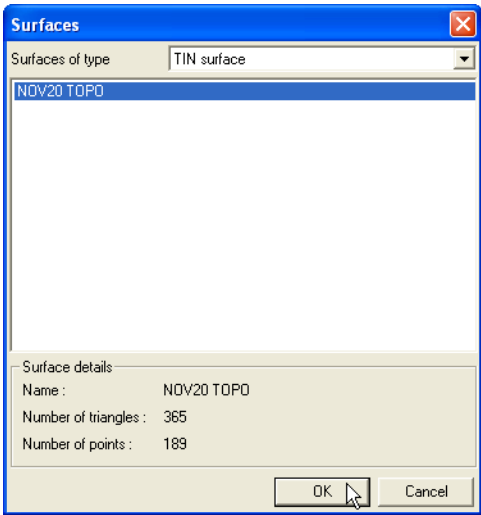

Figure 7-13. Select Surface to Compare
2. On the *Surfaces* dialog box, select the following and click **OK** (Figure 7-13 on page 7-14):